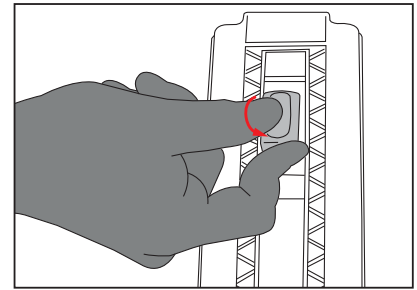

Figure 3.3
- To fold or adjust the height you must turn the rectangular button counter-clockwise 90° and then push in. Lower the walker to the desired height and then release the button. **See Figure 3.3**.